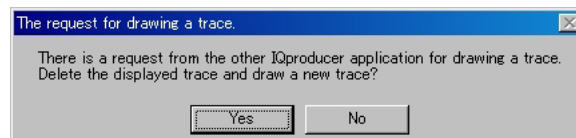

Figure 3.1.7-2 Confirmation message
2. Select **[CCDF]** from the **[Simulation]** menu or click the  tool button. The confirmation message shown in Figure 3.1.7-2 below appears: